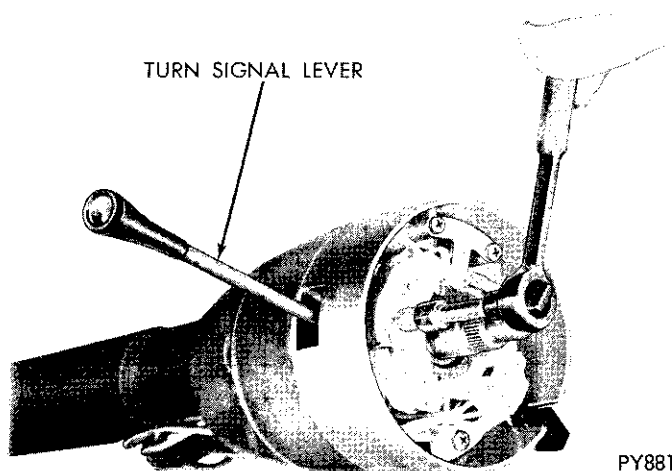

Fig. 3—Turn Signal Lever
- (3) Remove steering shaft lower coupling to wormshaft roll pin.
- (4) Disconnect wiring connectors at steering column jacket.
- (5) Remove horn ring ornament assembly.
- (6) Disconnect wire at horn switch. Remove screws attaching horn ring and switch to steering wheel, then remove horn ring and switch.
- (7) Remove steering wheel retaining nut and washer. Remove steering wheel with Tool C-3428A. **Do not bump or hammer on steering shaft to remove wheel.**
- (8) Remove turn signal lever (Fig. 3).
- (9) Remove floor plate to floor pan attaching screws. Remove finish plate from under instrument panel to expose steering column bracket. If so equipped, disconnect automatic shift indicator pointer from shift tube bracket.
- (10) Remove nuts or bolts attaching steering column bracket to instrument panel support.
- (11) Carefully pry lower coupling from steering gear wormshaft, then remove column assembly out through passenger compartment being careful not to damage paint or trim.